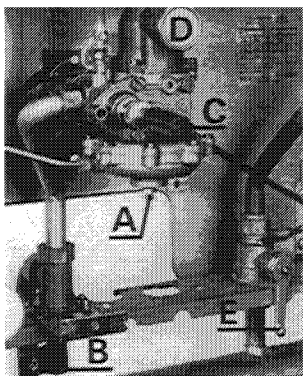

Fig. 16
With the pump fitted, the system should be filled and air locks cleared. The boiler water section can be vented if necessary by unscrewing the drain valve (see A fig. 16). Vent all radiators and check for water soundness.
With the circulating pump fitted, the system should be filled and air locks cleared until the pressure gauge registers 1.5 bar (21.5 p.s.i.). (The boiler water section can be vented if necessary by unscrewing the drain valve, see A fig. 16). Vent all radiators and check for water soundness.
- Open gas service tap by turning to \blacklozenge (see B fig. 16).
- Press in pilot valve knob and light pilot using the ignition button, continue to hold in the pilot valve knob for 30 seconds and release (n.b. the pilot should remain alight, it may be necessary to wait a few moments for gas to reach the pilot) (see C fig. 16).
Remove the pressure test point screw from the left hand end of the burner manifold and connect pressure gauge suitable for measurement in the range 0-20 mbar (0-8 in.w.g). Remove the hexagonal cap from the front of the gas volume governor to expose the adjusting screw (D fig. 16).
The data badge is situated at the bottom right hand side of the chassis (fig. 16).
Close the isolating valves on the boiler by turning in a clockwise direction. Drain the boiler by unscrewing the drain valve (A fig. 16).